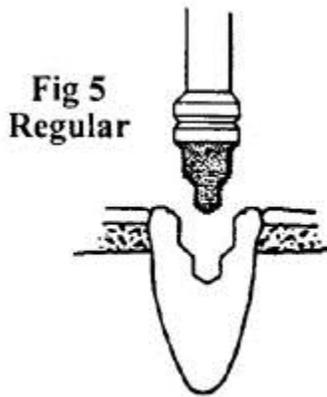

Fig 5
5. Complete the preparation for the surgical stainless steel female with the ZAAG Diamond Sizing Bur (standard or mini). The Diamond Sizing Bur should be used to a depth where a full 360° recessed seat is created on the occlusal surface of the root (Fig 5 & 6). This will assure a firm seating of the female and a proper seal. Keep the Diamond Bur rotating throughout this entire procedure, including insertion and removal of the instrument, to prevent breakage of the tip. Use plenty of water as coolant during the process.